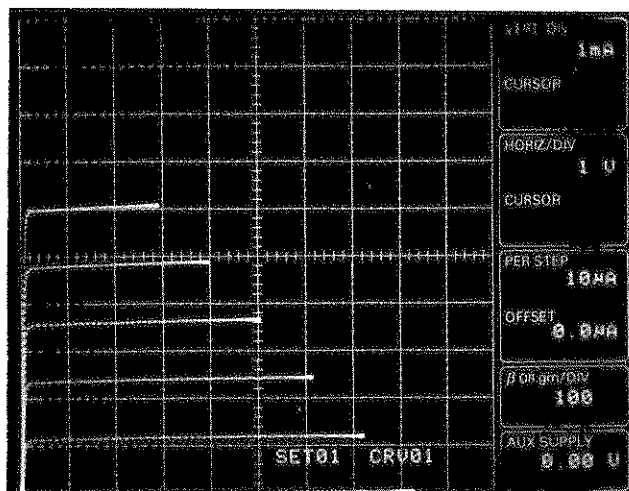

Figure 3-15. VIEW curve display.
72. Select the previous memory ID (2) with the MEMORY control. Press RECALL to set the 370 to the setup of Step 70. (The SETUP ID "SET 02" is displayed at the bottom center of the crt.) Press the VIEW button. The VIEW LED turns on and the curves of Step 69 are displayed. (The CURVE ID "CRVXX" is displayed at the bottom right of the crt.) Readjustment of the VIEW intensity control may be needed for the VIEW curves. See Figure 3-15.